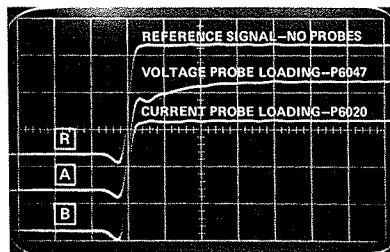
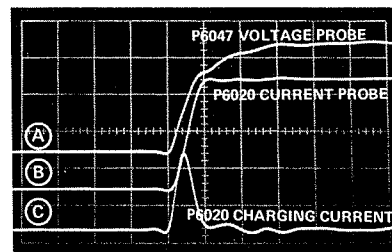

Fig 2. CRT display of oscilloscope under test. Probes are applied to deflection plate circuitry as shown in fig 4.
Fig 3. Test oscilloscope (Type 454).
Note in fig 3 that the P6020 current wave-shape (B) is an accurate representation of the reference signal in fig 2 (B) and does not distort the reference signal (R). The P6047 loads the signal severely (A) and distorts the probe source as shown in fig 2 (A). Additional information that only a current probe can display is the initial charging current necessary to charge the CRT capacitance (C).